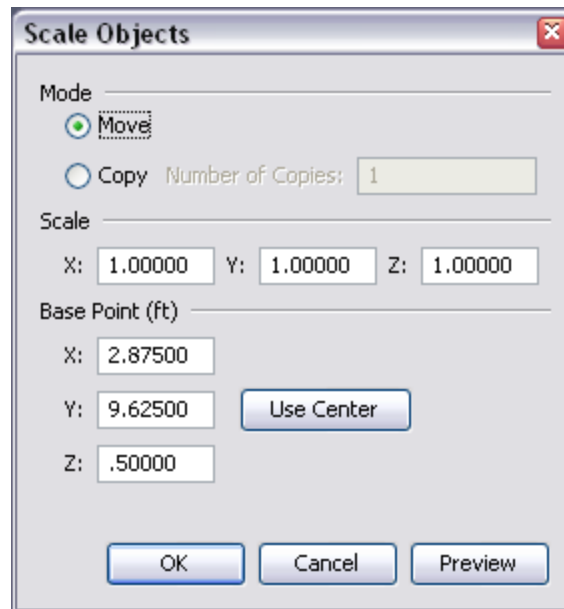

Figure 113. The scale dialog being used to scale an object
3. This will show the Scale dialog as in Figure 113.